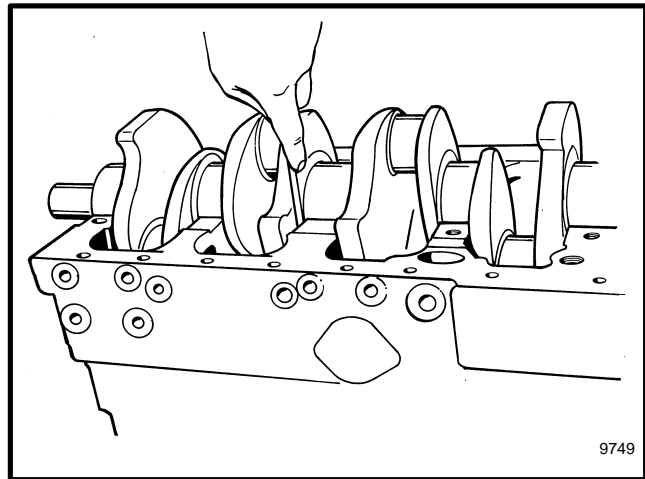

FIGURE 34. CHECK THE CLEARANCE BETWEEN THE CRANKSHAFT AND THRUST BEARINGS
8. Before removing the crankshaft, measure the clearance between the crankshaft and thrust bearings at the middle main bearing location. See FIGURE 34. Move the crankshaft fully forward before making the measurement. The maximum amount of clearance (axial clearance) is 0.3 mm (0.012 inch). If the amount of axial clearance is greater than the specification, then the thrust bearings must be changed.